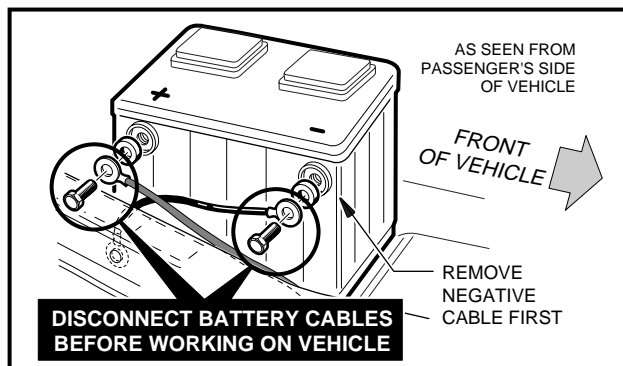

Figure 1-1 Battery
- Disconnect battery cables, negative cable (–) first (Figure 1-1, Page 1-2).